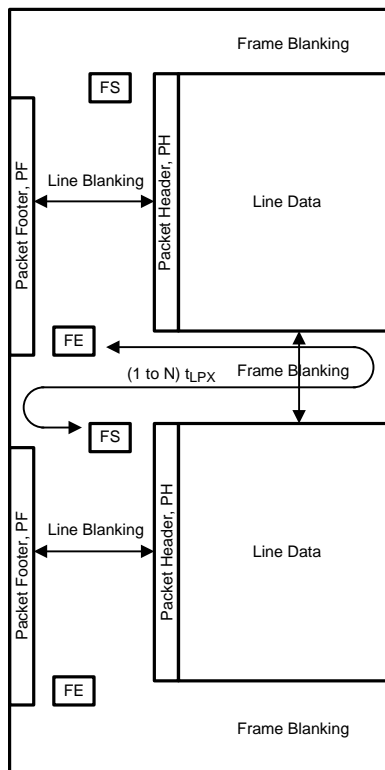

Figure 29. CSI-2 General Frame Format
The DS90UB940-Q1 (in default mode) takes RGB 24-bpp data bits defined in the serializer and directly maps to the pixel color space in the data frame. The DS90UB940-Q1 follows the general frame format as described per the CSI-2 standard (Figure 29). Upon the end of the vertical sync pulse (VS), the DS90UB940-Q1 generates the Frame End and Frame Start synchronization packets within the vertical blanking period. The timing of the Frame Start will not reflect the timing of the VS signal.